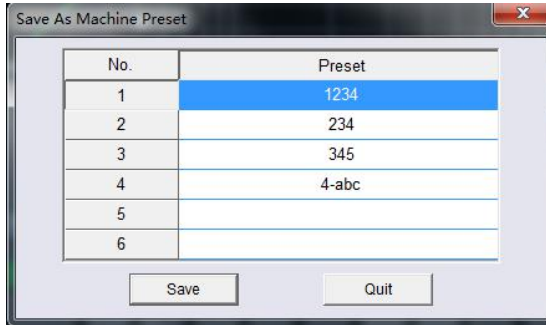

Figure 3.4.5
Step2: Click "Load machine preset " item will pop up after loading machine preset scene window dialog box (Figure 3.4.5).
Step3: as dialog box of figure 3.4.5 , select the machine where the user wants to load a preset number (as selected on the 3rd), and then point below the "Load" button on the pop-up shown 3.4.6 loading data transfer progress shown in the wait window.